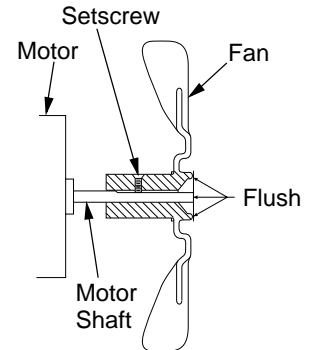

Figure 9 - Fan Cross Section and Setscrew Location
6. Replace fan on motor shaft. Place fan hub flush with end of motor shaft (see Figure 9).